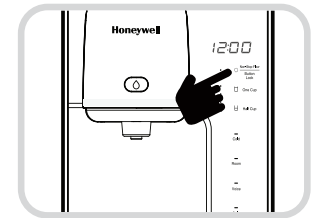

Fig. 12
1. Press the Energy Save/Clock (Setup) button for three (3) seconds in the Waiting Status to put the unit in the User Setting mode. The Voice Guide will say "selecting user setting mode" "user setting mode, please set function by pressing the illuminated button".
2. After the unit is in the User Setting mode, press the Non-Stop Flow/Button Lock button. (Fig. 12).